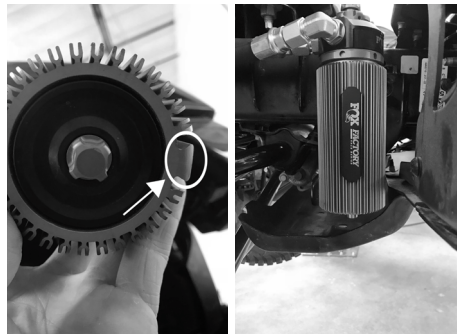

Fig. 9 Dove tail feature (Left), Check reservoir clearances. Passenger's side shown (Right)
9. Place reservoir onto the bracket using the dovetail feature on the reservoir. Ensure that the reservoir has at least 1/8" clearance from the skid plate or any surrounding vehicle parts (Fig 9).